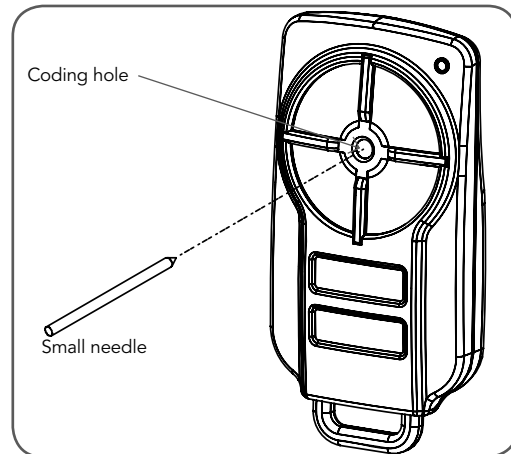

fig 31
- Using a small needle, press and hold firmly for two seconds through the Coding Hole (**Fig. 31**).